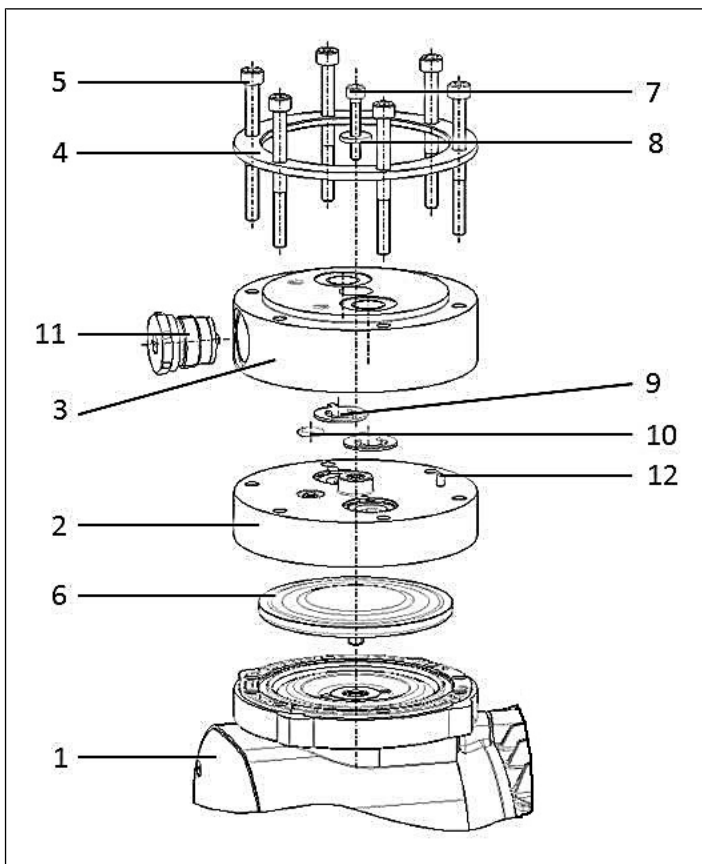

Fig.13: Pump parts N922FT.29E EX
\*\*According to Fig. 13
**i** The item numbers within the following work instruction refer to Fig. 13.
1. Mark the position between housing (1), intermediate plate (2), head plate (3) and pressure plate (4) by means of a continuous line made with a felt-tip pen to ensure proper mounting.
- Use a wrench to unscrew the adjusting valve (11) out of the head counterclockwise.
- Screw the new adjusting valve (11) into the head and tighten (tightening torque: 450 Ncm).
**i** The adjusting valve (11) is preset ex works to a defined value. No changes may therefore be made to the adjusting valve before it is mounted on the head.